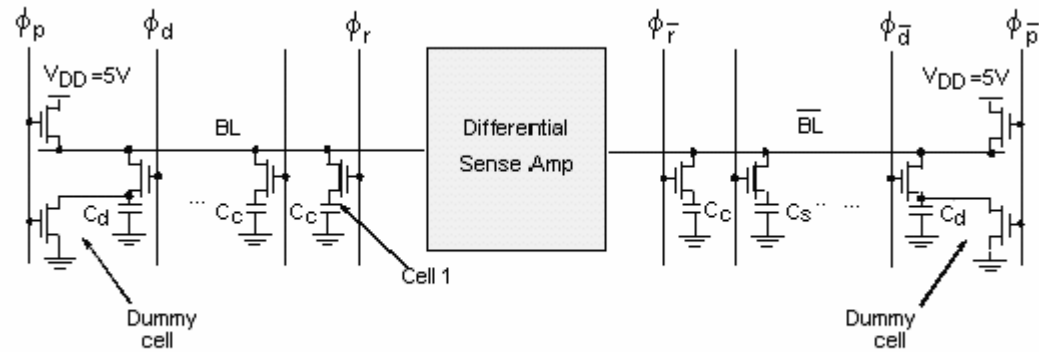

Figure 12.89 DRAM with divided bit-line structure.
- [M, None, 12.3.2] Figure 12.89 shows a DRAM with a divided bit line. Each side of the differential sense amplifier connects to 256 DRAM cells and 1 dummy cell. The input capacitance of the sense amp is 8 fF at each input. The BL and BL lines are in metal for which the resistive and capacitive contributions can be neglected. The lumped junction capacitance of each cell is 0.8 fF. Ignore body effect.